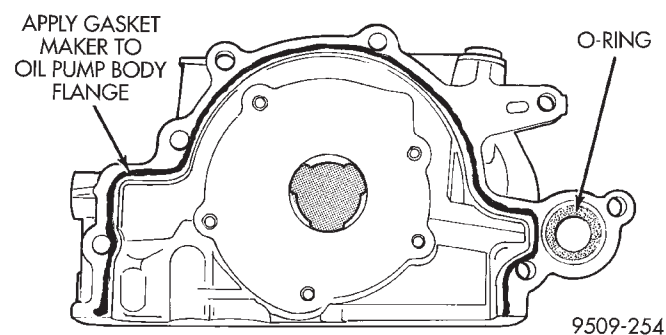

Fig. 84 Oil Pump Sealing
- (1) Make sure all surfaces are clean and free of oil and dirt.
- (2) Apply Mopar® Gasket Maker to oil pump as shown in (Fig. 84). Install oil ring into oil pump body discharge passage.